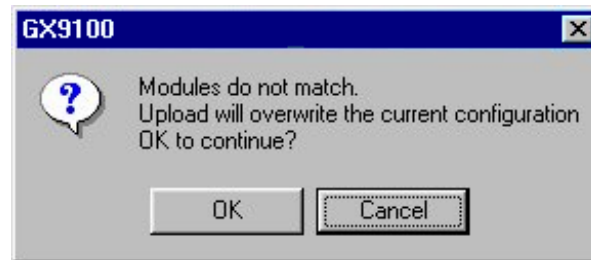

Figure 8-6: Modules Do Not Match Dialog Box
6. Click OK. Upload checks if the configuration in the tool matches the configuration in the controller. If the check fails, the GX9100 modules do not match dialog box appears (Figure 8-6).